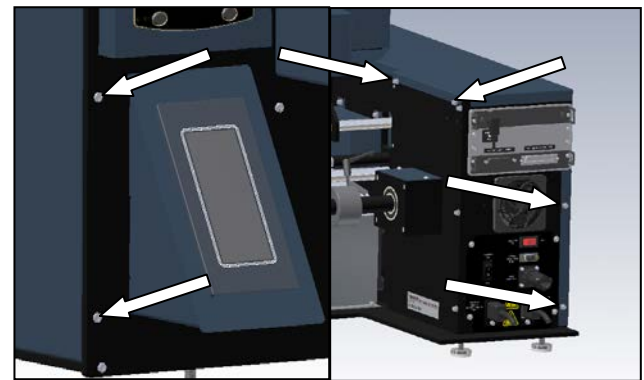

Figure 3-85. Frame Cover Screws
1. Remove the six screws holding the Frame Cover, set screws and Frame Cover aside (Figure 3-85).